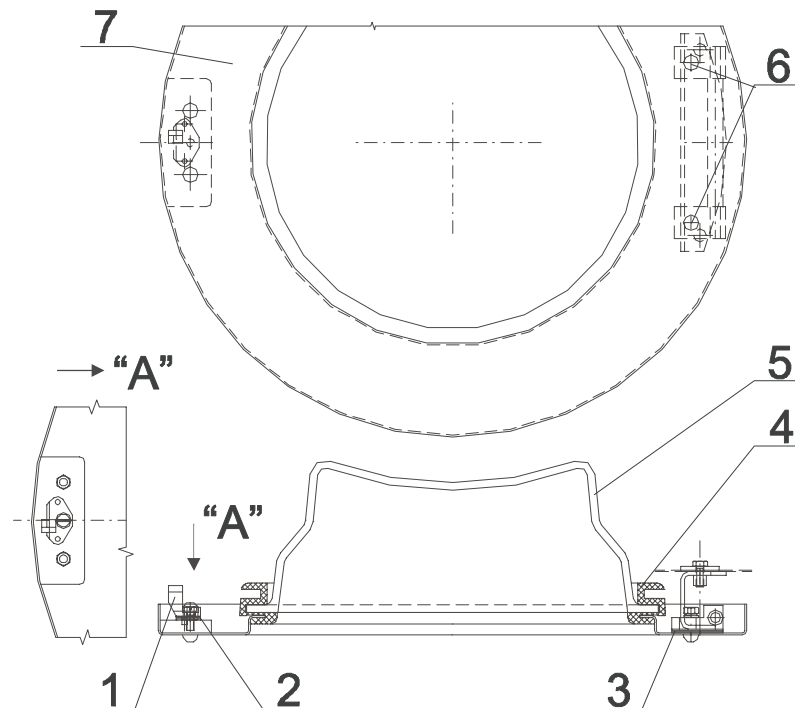

Fig.5.2. Door fastening
1. Open the door. Remove the door glass (fig.5.2., pos.5) with rubber (4) from the stainless steel door (7) by pushing it towards the drum. Do it carefully, not to damage the glass. Remove the seal (4) from the glass.
3. Moisten the seal groove (4) for door with soap water. Place a smooth cord in the groove all around. Tighten up the margin by cord and fit the unit to the door opening (7) (with the clip up). Hold one end of the cord firmly on the door. Pull the other cord end towards the center of the glass for the rubber edge properly fit in.